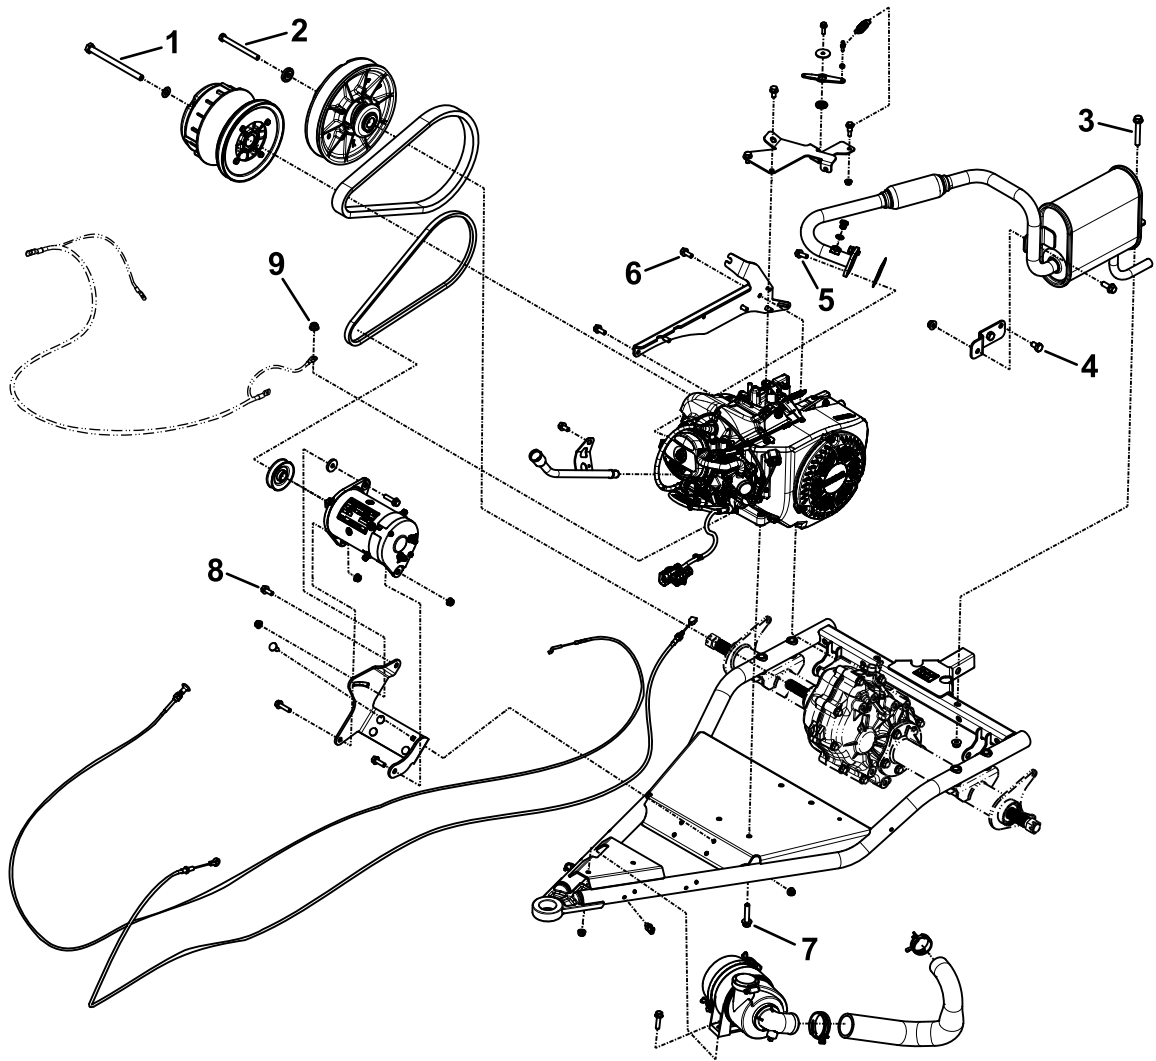

Figure 12
2. Torque all fasteners to the correct specifications as shown in Figure 12.